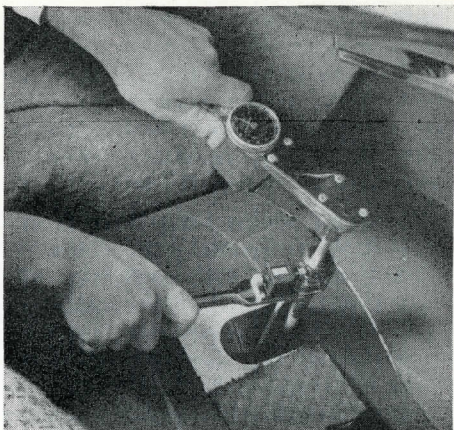

Figure 14
3. Attach a 5/16" square socket (F-310) to band adjusting tool, and in place of "T" handle on band adjusting tool, attach the small Torqometer (TQ-12-B). Tighten the adjusting screw to 120 inch pounds. Fig. 14.
4. With counter set at 00, and gear shift button at "A" position, back-off adjusting screw with "T" handle one and one-half turns. The counter dial of the band adjusting tool should read 1.5 at this point. Fig. 14.